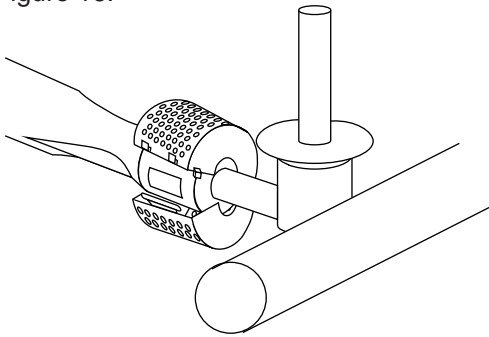

Figure 16
- d) Unlatch the Spider Stopper Guards and remove. Figure 16.